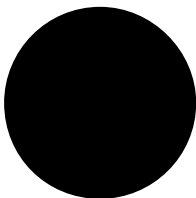

Figure 4
2. Ensure the trailer is horizontal using the jockey wheel. Check by measuring the distance from the ground to a fixed point (both at the front and rear) of the trailer. Refer Figure 4. **Note these heights.**
Note: The measurements and position of the measurements (Refer Figure 4)